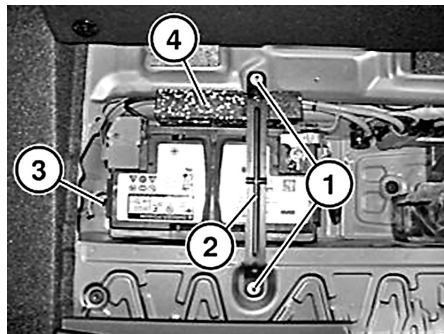

Fig. 3 Battery retaining bracket nut locations
5. Unscrew battery retaining bracket nuts (1), **Fig. 3**.
6. Remove retaining brackets (2), **Fig. 3**.
7. Release vent hose (3), **Fig. 3**.
8. Remove battery crash pad (4) toward top, **Fig. 3**.